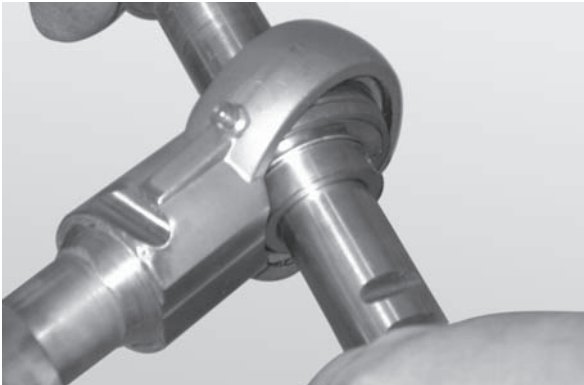

Figure 93
3. Insert the rod end of another bearing shaft through the bearing orifice (**Figure 93**).